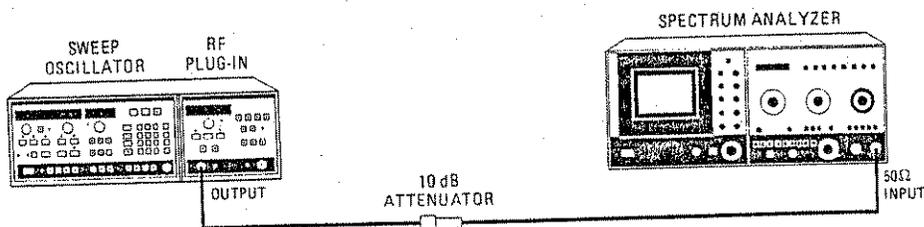

Figure 4--18. AM ON/OFF Ratio and Square Wave Symmetry Test Setup
1. Connect equipment as shown in Figure 4--18. Press 8350A [INSTR PRESET] [CW] [1] [GHz] and engage [MOD]. Set 83592A POWER LEVEL to +10 dBm.